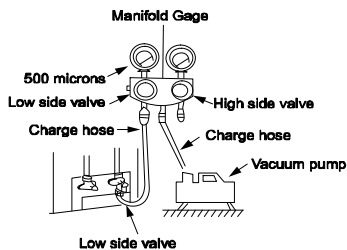

Fig. 16 – Manifold
3. Fully open the low side of manifold gage (see Fig. 16).